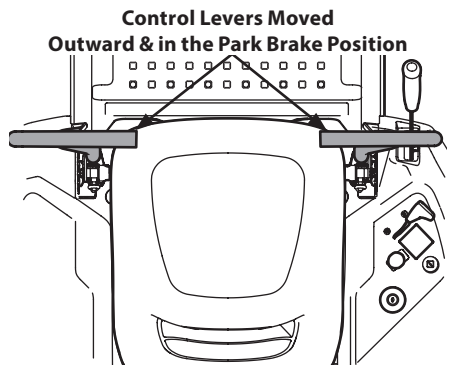

Figure 21
1. Operator should be sitting in the tractor seat with the lapbar drive control levers fully out and in the park position. See Figure 21. Refer to Practice Operation for further instructions.